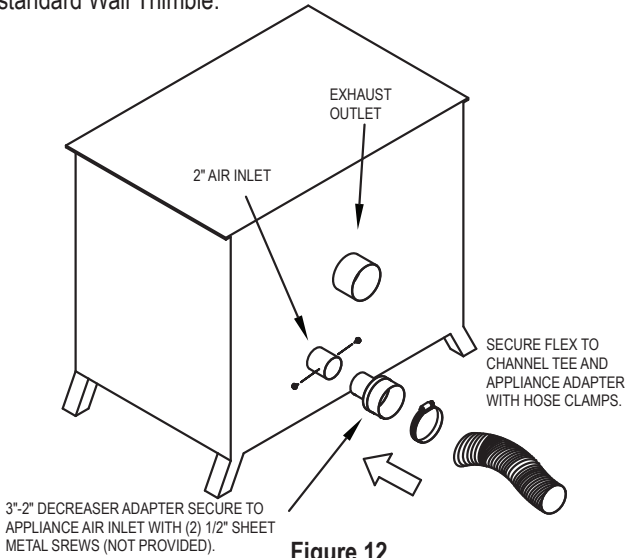
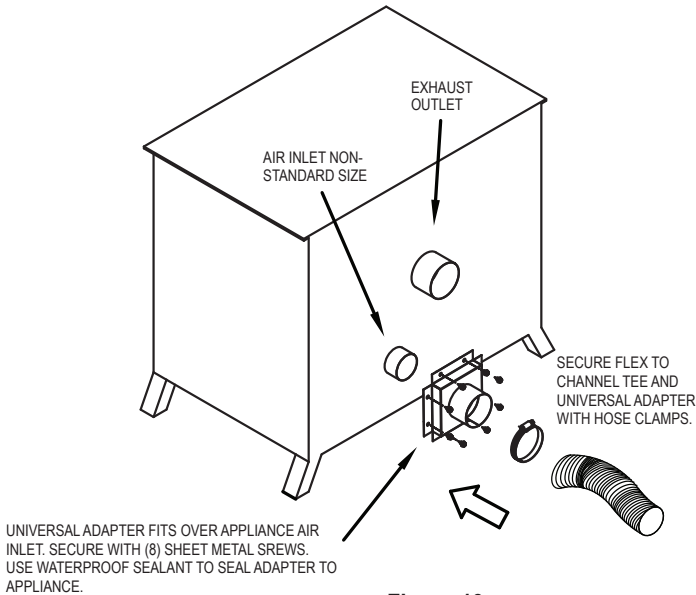

Figure 12
Figure 13
on your appliance, the method of attaching the flex to the appliance’s air-inlet may differ. If your appliance allows the flex to slip over the air-inlet, then slip the flex over the inlet and secure it using one of the hose clamps provided. If the appliance has a 2” air-inlet opening, you can use a 3”-2” reducer adapter that is available. Slide the flex onto the 3” end and secure with a hose clamp. Insert the 2” end into the appliance’s air-inlet and secure with at least (2) 1/2” or 5/8” sheet metal screws (**Fig 12**). If your appliance will not accept either of these connections, a Universal Adapter that can bolt onto the back of the appliance is also available. The Universal Adapter connects to the flex using a hose clamp on one end, and mounts over the appliance’s air-inlet using (8) sheet metal screws (**Fig 13**). The Universal Adapter can fit air-inlets up to 4-3/4” square. It is recommended that when using the Universal Adapter, that you seal it against your appliance using waterproof sealant.